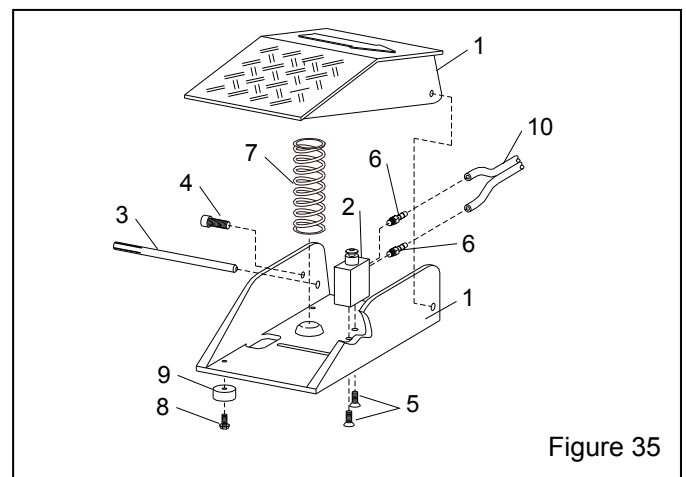

Figure 35
9.5 Foot Pedal Assembly, Figure 35